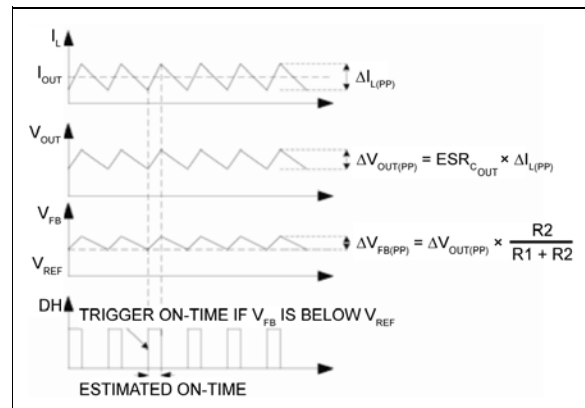

FIGURE 4-1: MIC2125/6 Control Loop Timing
The MIC2125/6 Functional Block Diagram appears on page two. The output voltage is sensed by the MIC2125/6 feedback pin (FB), and is compared to a 0.6V reference voltage (V_{REF}) at the low gain transconductance error amplifier (g_m). Figure 4-1 shows the MIC2125/6 control loop timing during steady-state operation. When the feedback voltage decreases and the amplifier output is below 0.6V, the comparator triggers and generates an ON-time period. The ON-time period is predetermined by the fixed t_{ON} estimator circuitry value from Equation 4-1:
The MIC2125/6 high-side drive circuit is designed to switch an N-Channel MOSFET. Figure 4-1 shows a bootstrap circuit, consisting of a PMOS switch and C_{BST} . This circuit supplies energy to the high-side drive circuit. Capacitor C_{BST} is charged while the low-side MOSFET is on and the voltage on the SW pin is approximately 0V. When the high-side MOSFET driver is turned on, energy from C_{BST} is used to turn the MOSFET on. If the bias current of the high-side driver is less than 10 mA, a 0.1 μ F capacitor is sufficient to hold the gate voltage within minimal droop, (i.e., $\Delta_{BST} = 10 \text{ mA} \times 3.33 \mu\text{s}/0.1 \mu\text{F} = 333 \text{ mV}$). A small resistor, R_G in series with C_{BST} , can be used to slow down the turn-on time of the high-side N-channel MOSFET.